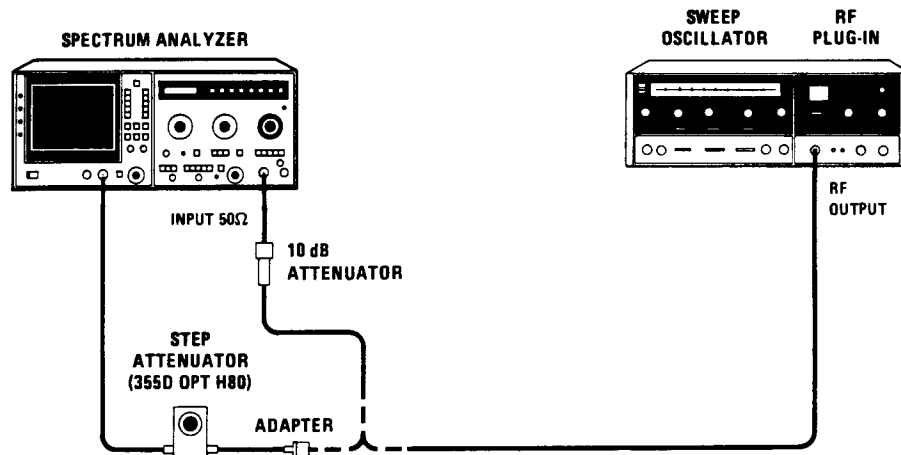

Figure 4-14. Input Attenuator Accuracy Test Setup
2. Connect equipment as shown in Figure 4-14 using CAL OUTPUT signal through 10-dB attenuator and 10-dB step attenuator. Set step attenuator to 0 dB. Adjust spectrum analyzer TUNING control to center signal on CRT.
8. Disconnect step attenuator from spectrum analyzer input and connect sweep oscillator output through 10 dB attenuator as shown in Figure 4-14.